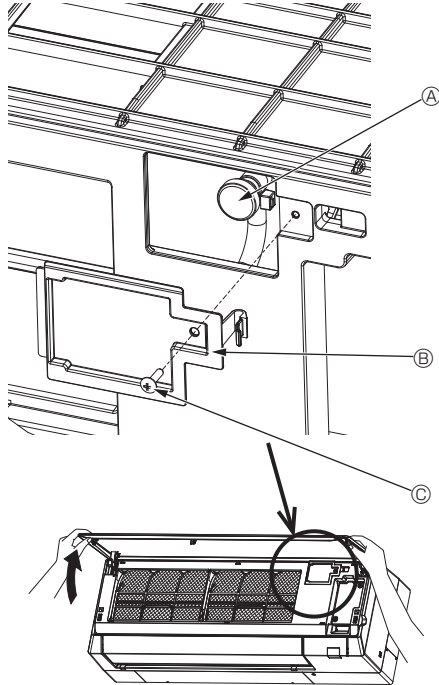

Fig. 7-1
7.2.2. The air vent valve of indoor unit (Fig. 7-1)